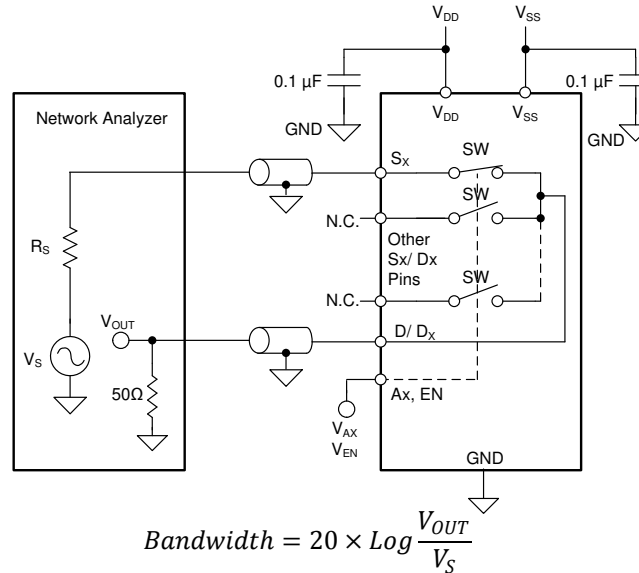

Figure 8-15. Bandwidth Measurement Setup
Bandwidth (BW) is defined as the range of frequencies that are attenuated by < 3 dB when the input is applied to the source pin (Sx) of an on-channel, and the output is measured at the drain pin (D or Dx) of the TMUX730xF. Figure 8-15 shows the setup used to measure bandwidth of the switch.